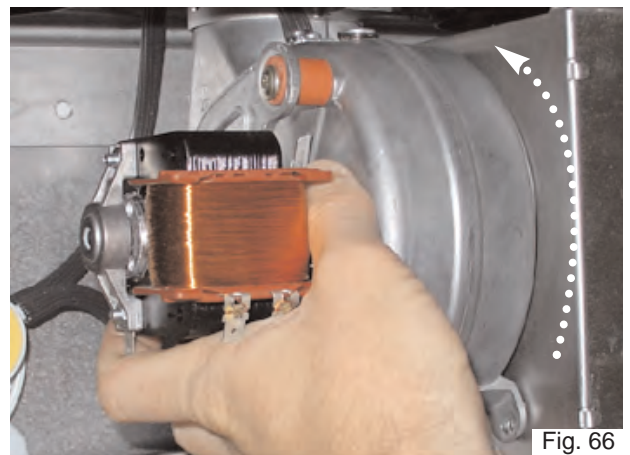

Fig. 66
4. Turn the fan anticlockwise to disengage from flue outlet and lift clear (see Fig. 66);